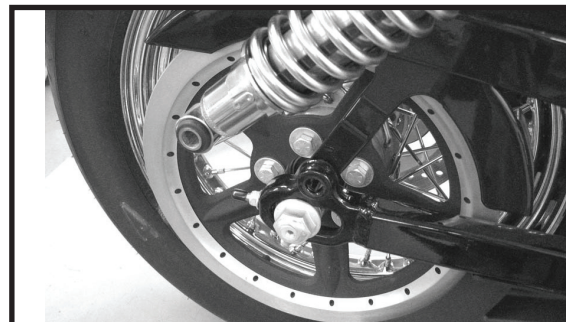

Figure 1
- At this point it is helpful to tilt the shocks up and back then re-tighten the upper shock bolts (Figure 1).